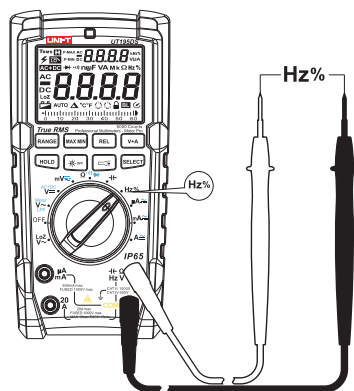

Figure 6
9. Frequency/Duty Ratio Measurement (See Figure 6)